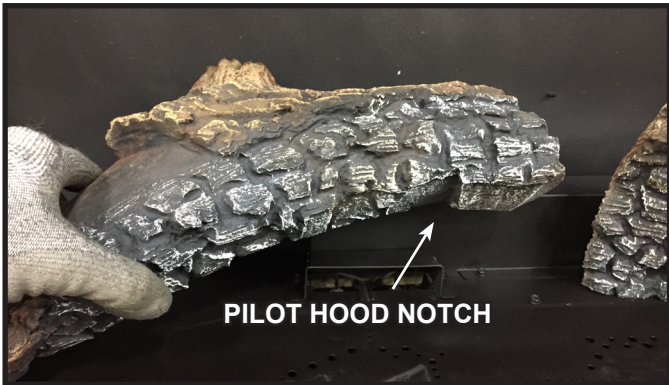

Figure 10 Log #2 Pilot Hood Notch
**LOG #2:** Hook the pilot hood notch over the right side of the pilot hood, with the back of the log against the air scoop. Rotate the left end of log forward until it contacts log pin A. See Figures 10 and 11.